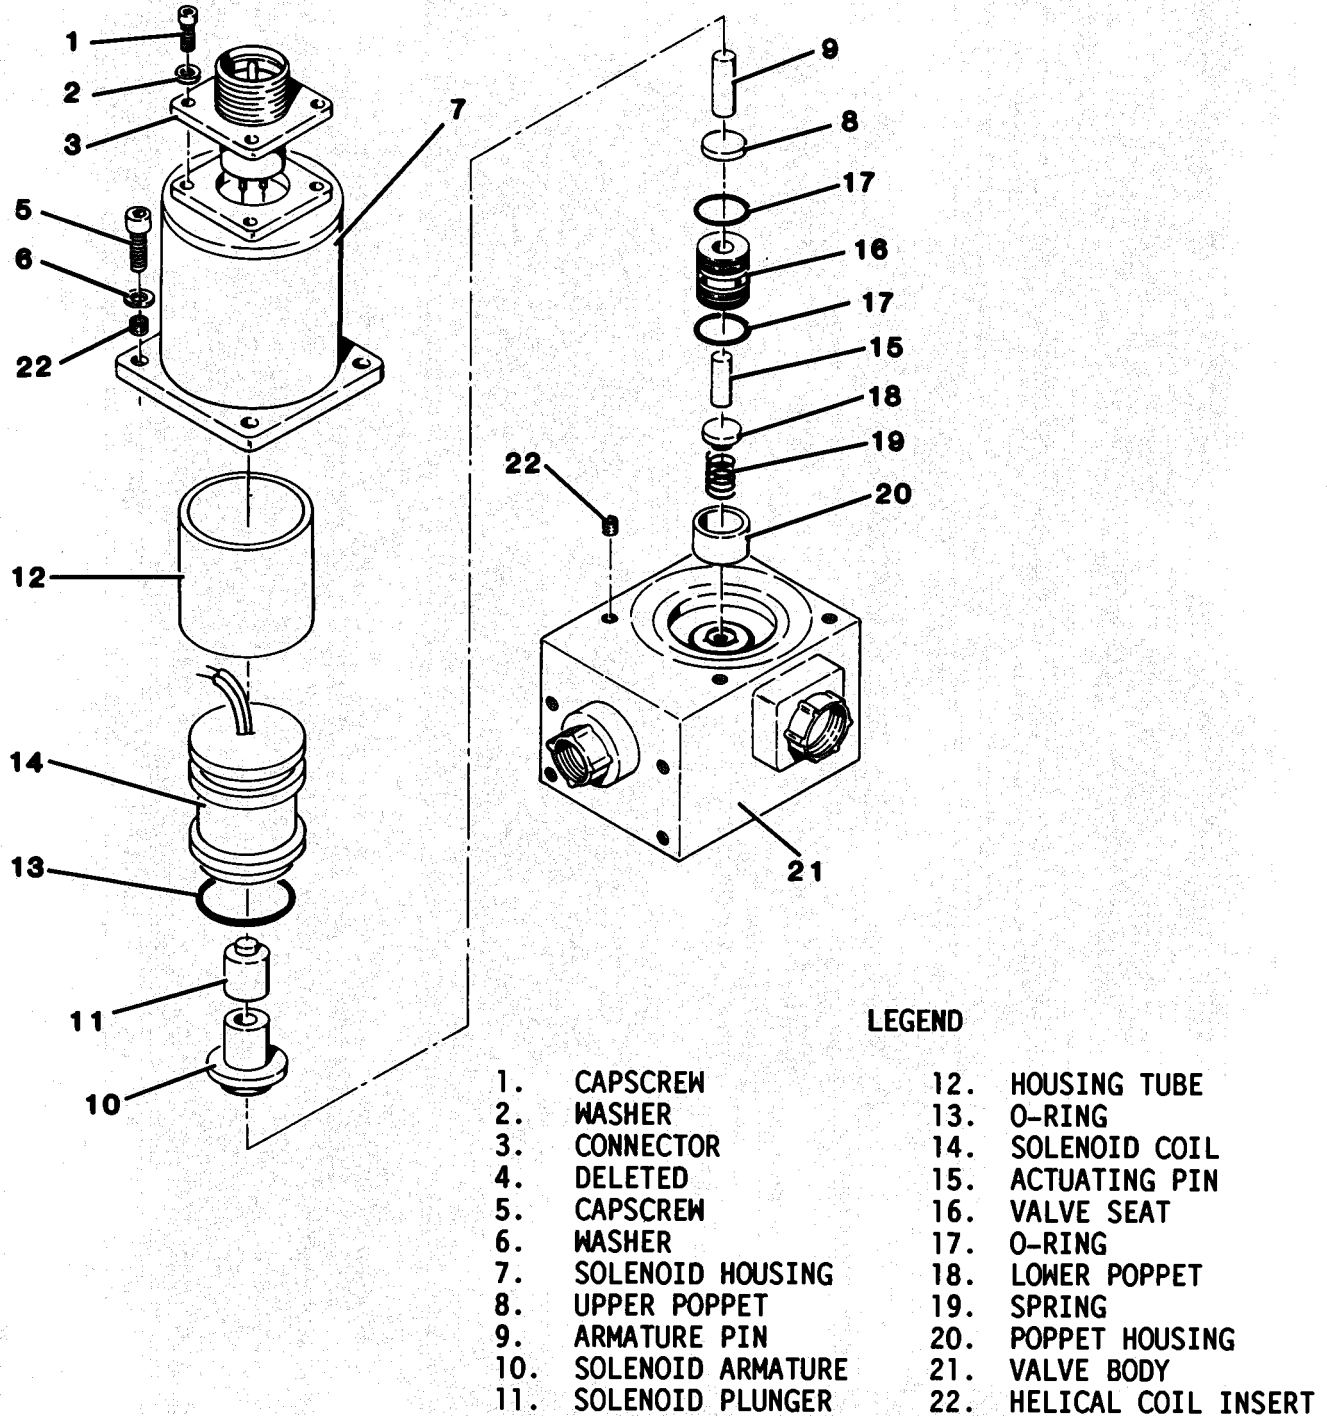
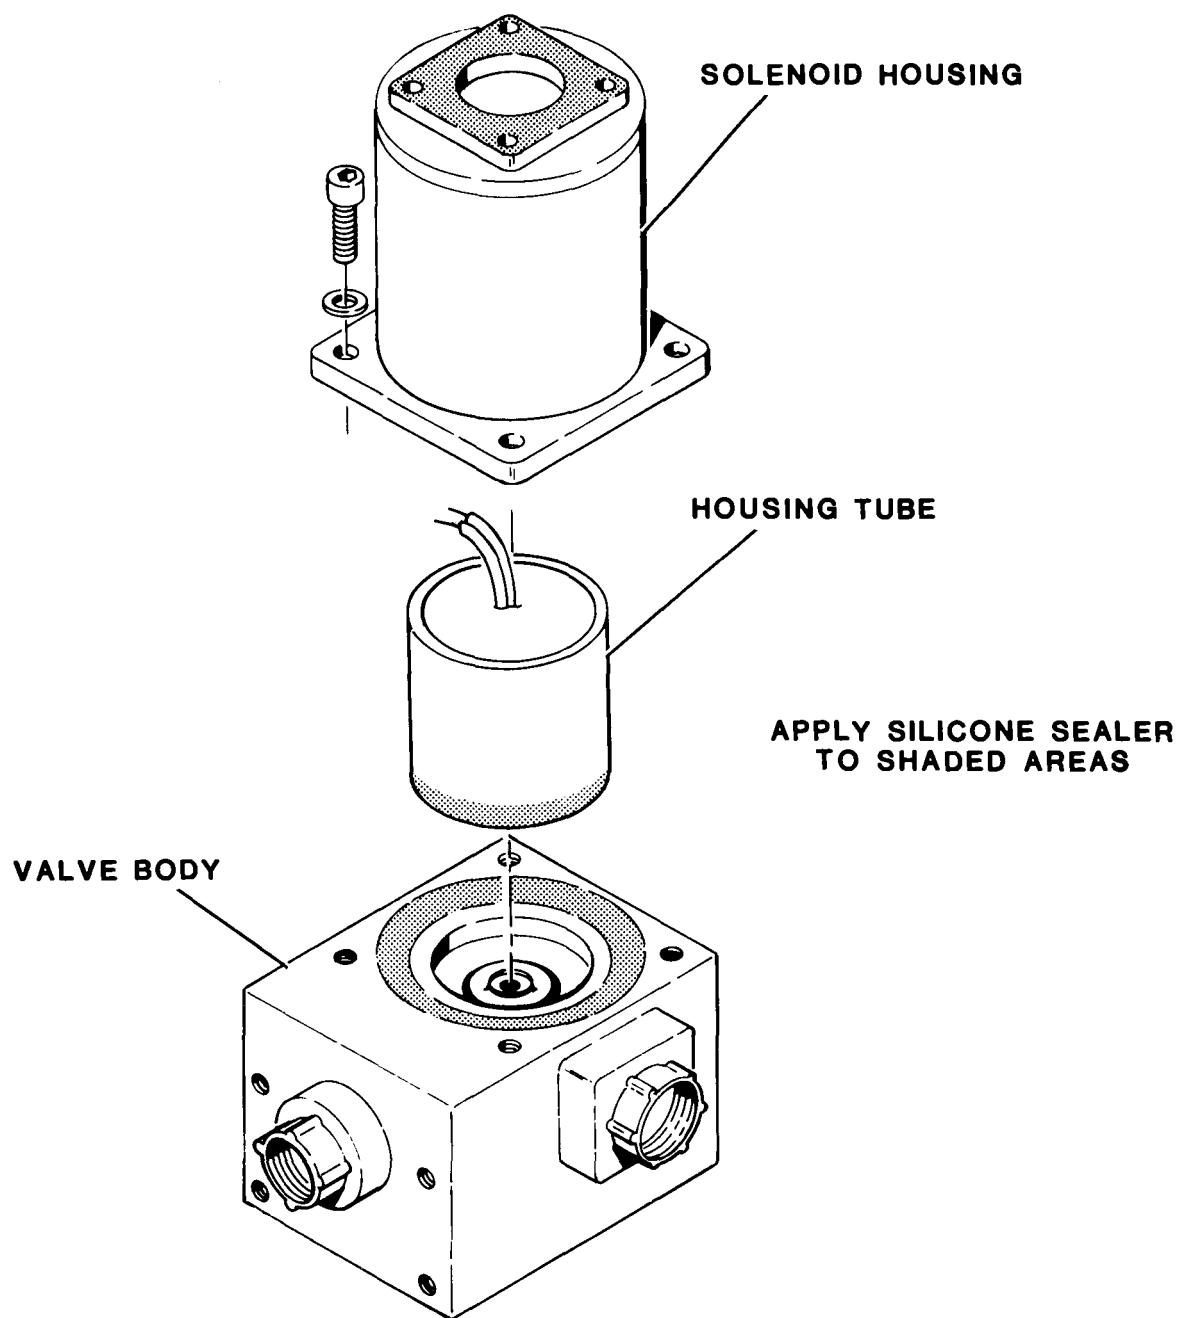

Figure 6-8. Solenoid Valve Disassembly
Figure 6-9. Silicone Sealer Application
(1) Remove solenoid valve in accordance with paragraph 4-42b, TM 5-6115-612-12.
(2) Remove lockwire, capscrews (1, figure 6-8) and washers (2).
(3) Pull electric receptacle connector (3) away from solenoid housing (7) far enough to expose electrical connection.
(4) Remove shrink tube. Tag and disconnect electrical connections. Remove electric receptacle connector.
(5) Deleted.
(6) Remove capscrews (5) and washers (6).
(1) Ensure that poppet housing (20) is snug against bottom of valve body (21).
(2) Install spring (19) and lower poppet (18) in poppet sleeve.
(3) Lightly lubricate new O-rings (17) and install on valve seat (16).
(4) Press valve seat firmly into valve body until it is snug against poppet sleeve.
(5) Insert actuating pin (15) into valve seat until it rests on lower poppet.
(6) Install solenoid coil (14) in housing tube (12).
(7) Lightly lubricate new O-ring (13) and install in housing tube.
(8) Apply silicone sealer (RTV-157) to surfaces of valve body and housing tube as shown in figure 6-9.
(8) Press housing tube into solenoid housing (7, figure 6-8). Press firmly to ensure proper mating. Remove any excess sealing material.
(9) In order, place solenoid plunger (11), solenoid armature (10), armature pin (9), and upper poppet (8) in housing tube.
(10) Align mounting holes of solenoid housing and valve body. Secure with washers (6) and capscrews (5).
(11) Install shrink tube and connect wiring to electric receptacle connector (3).
(12) Apply silicone sealer (RTV-157) to top of solenoid housing as shown in figure 6-9.
(13) Align mounting holes of electric receptacle connector and solenoid housing. Secure together with washers (2, figure 6-8) and capscrews (1).
(14) Lockwire all capscrews in accordance with MS33540.
(15) Install solenoid valve in accordance with paragraph 4-42c, TM 5-6115-612-12.